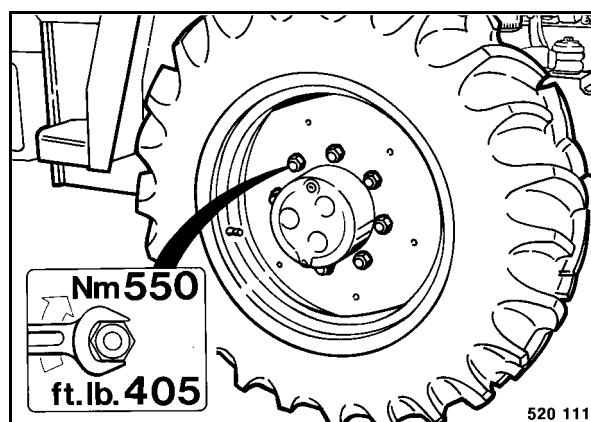

Fig. 193
- Attach the wheel (Fig. 193) and tighten the wheel nuts crosswise with 550 Nm (405 ft. lb.).